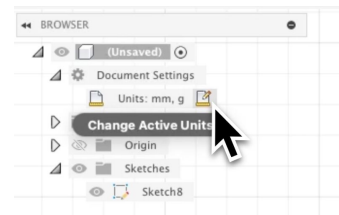

Figure 1.2
- You can change units by going to Document Settings → Units → Change Active Units. A new window will appear where you can select the unit system you want to use. (see Figure 1.2)